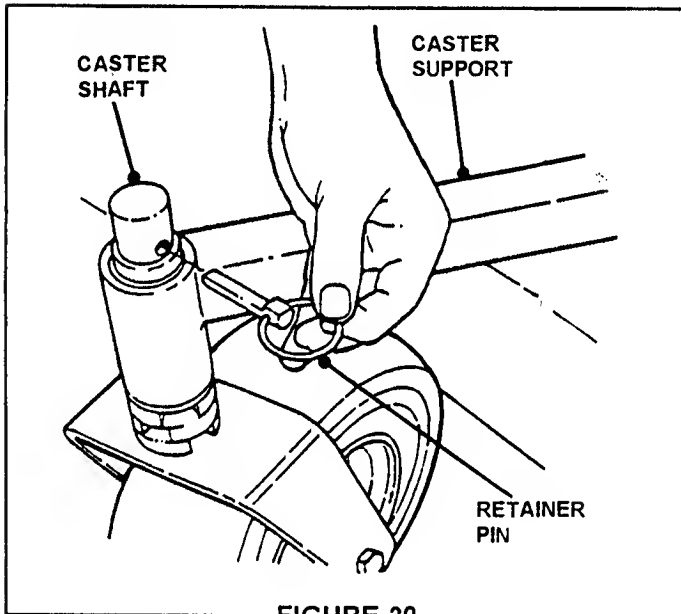

FIGURE 20
1. Remove Retainer Pin from Caster Shaft. See Figure 20.